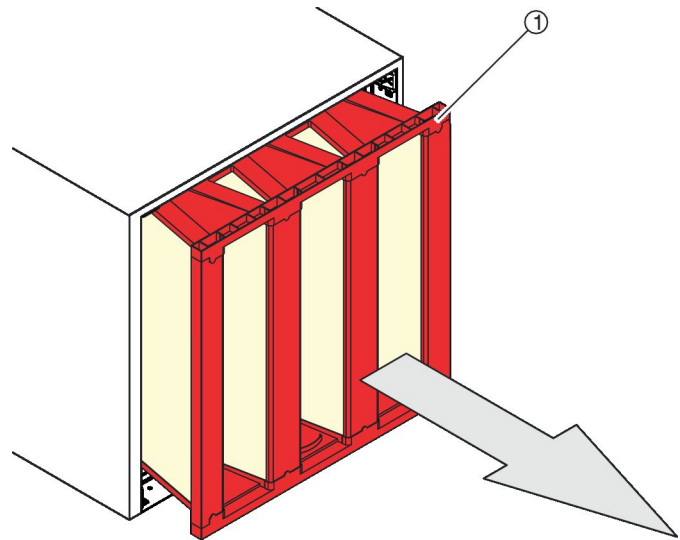

Fig. 21: Removing the filter element
4. ▶ Pull out the filter element (Fig. 21 /1).